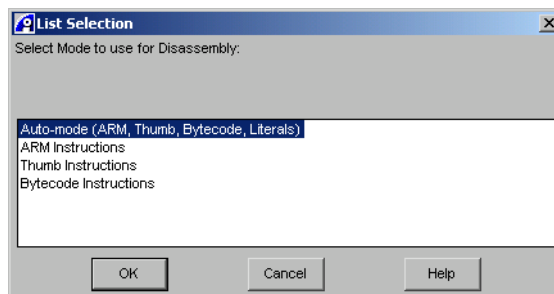

Figure 3-1 Disassembly Mode selection box
4. Select **Set Disassembly Format...** from the context menu to see the Disassembly Mode selection box, shown in Figure 3-1 on page 3-6.